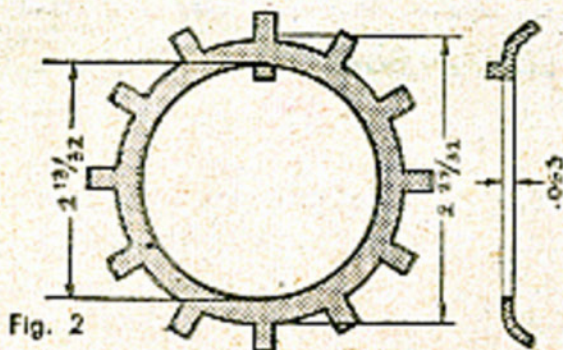

Fig. 2
TB ORD 167 (17 Aug. 44) says you can do one of three things to solve the problem: (1) Requisition Washer, spring spacer, GM No. 2202834—the washer that should've been in the kit. (2) Requisition Washer, ball-bearing lock, Item Stock No. H12-711213 (old Item Stock No. M5-2-59100), Fig. 2. It's a bit thicker and larger than the real thing, but okay to use if